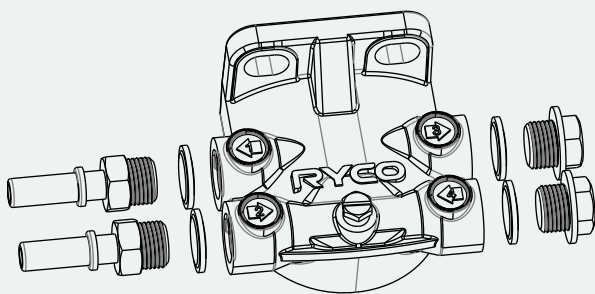

FIGURE 1
- 2 Install the Ryco fuel water separator head with metal quick connectors, blanking plugs and rubber bonded washers, as per FIG. 1. Tighten blanking plugs (on port 3 & 4) and quick connectors (on port 1 & 2). (Note ensure these are only tightened by hand to avoid damaging the rubber bonded washers.)